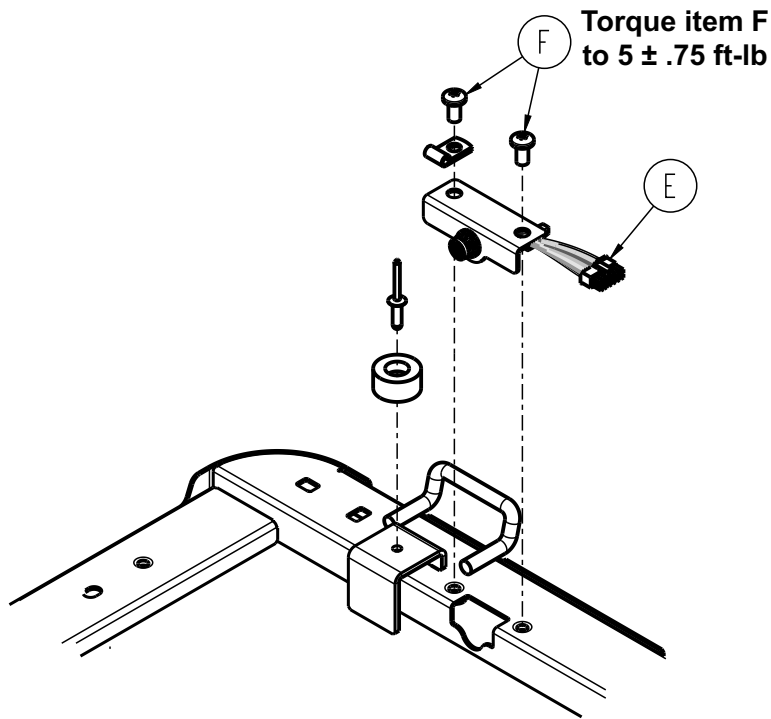

Figure 38 – Removing the pendant port/bracket screws
16. Using a T30 Torx driver, remove the two screws (F) that secure the pendant port/bracket (E) to the Fowler weldment and discard (Figure 38).